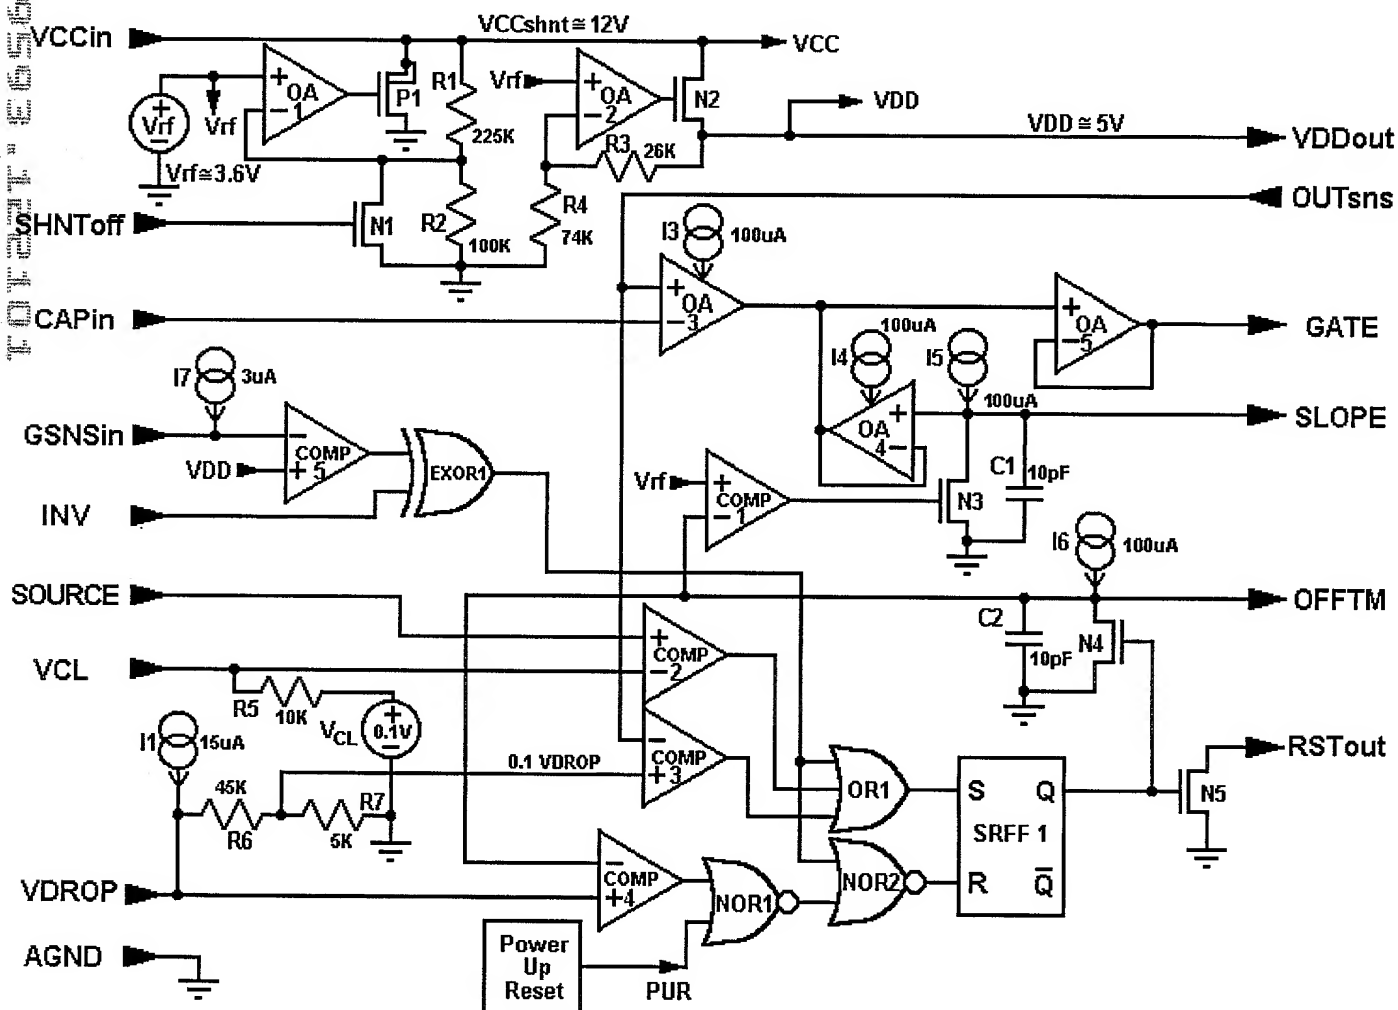

Figure 2
Once power is applied, the IXHQ100 starts up but does not immediately apply power to the output load. The internal Power Up Reset logic (see in Figure 2) turns on for 10 μ s prior to any other logic. This pulse goes through two NOR gates and resets SRFF1 Flip Flop. Once SRFF1 is reset, the current source, I6, charges the OFFTM pin at a rate proportional to the size of the external capacitor, C7 (fig 1). During the time the OFFTM pin is ramping from 0V to V_{rf} (~5V), which is the $T_{off-delay}$, COMP1 keeps N3 ON so V_{SLOPE} stays at 0V. After $T_{off-delay}$, V_{OFFTM} becomes greater than V_{rf} , and COMP1 goes low, driving N3 to off state. I5 now starts to charge C1, ramping +ve i/p of OA4. OA4 buffers V_{SLOPE} and sets the GATE output ramp.
The flip-flop, SRFF1 (fig 2), used in the IXHQ100, is reset dominant. Hence when both S and R inputs are driven high, the SRFF1 remains reset. Under normal operation, S input becomes high whenever OR1 output is high and R input is low. In turn, OR1 goes high if any one of the outputs of EXOR1, or COMP2, or COMP3 goes high.
*Unless otherwise stated, all symbol and device references are referred to the logic diagram (Fig 2) on page 6
A valid S input into SRFF1 will immediately drive its output, Q1, to high and will turn on both N5 and N4. N5, an open drain output, will result in RSTout being driven low. A current limiting resistor, R1, in series with a 4N35 LED connected to V_{DD} (fig 1) can be used to generate an isolated reset pulse. Turning on N4 will discharge C7 and the internal 10pF capacitor (fig 2). As soon as V_{OFFTM} drops below $V_{DROP} \approx 0.9V$, COMP4 in Figure 2 will turn on through NOR1 and NOR2, and resets SRFF1
with a high applied to its R input. This act will then turn off both N5 and N4 and allow OFFTM pin to initiate its positive ramp as a result of I6 charging the capacitors C7 (Figure 1) and C2 (Figure 2) connected to the OFFTM pin.
The IXHQ100 will automatically attempt to restart once a disconnection and reconnection is detected. Either PUR or COMP4 going high will reset SRFF1 during normal operation of the IXHQ100 (fig 2). Resetting SRFF1 turns off N4 and N5, and the OFFTM pin ramps up in response. During this ramp, as long as V_{OFFTM} is less than $V_{rf} \approx 4.5V$, COMP1 will keep N3 on and C1 (Figure 2) and C8 (Figure 1) discharged. After $T_{off-delay}$, V_{OFFTM} is at V_{rf} , COMP1 output then goes low, turning off N3. Now the SLOPE pin is free to ramp up as a result of I5 charging C1 (Figure 2) and C8 (Figure 1). The two unity-gain buffers, OA4 and OA5, reflect V_{SLOPE} at the GATE output pin during this positive ramp. As soon as V_{GATE} overcomes the V_{Q1th} , normal operation is resumed.